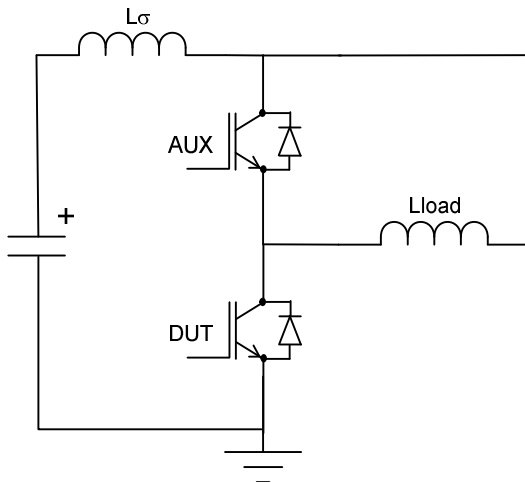
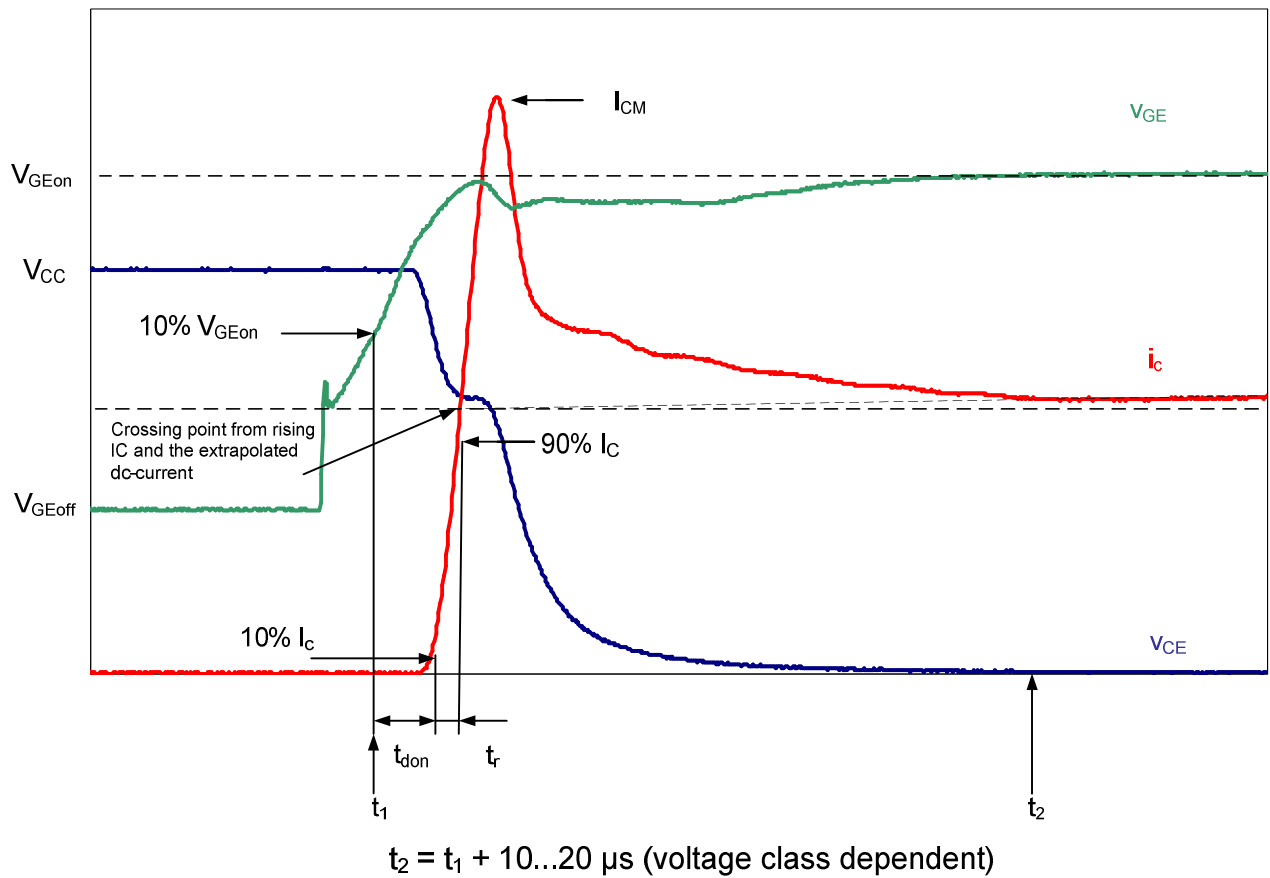

Fig. 2 Electrical circuit for testing of the dynamic performance of the IGBT
Fig. 3 Definitions of the turn-on parameters for the IGBT
All switching parameters are defined in a phase-leg connection using an auxiliary component of the same type as the device under test (DUT), see Fig. 2. For the definitions of the different switching parameters, see Figs 3 and 4. All switching parameters in ABB data sheets are specified for an inductive load.
**$E_{on}$ :** *Turn-on switching energy.* The energy dissipated during a single turn-on event. It is the integration of the product of collector current and collector-emitter voltage from  $t_1$  to  $t_2$  (see Fig. 3) as expressed by Equation 2.